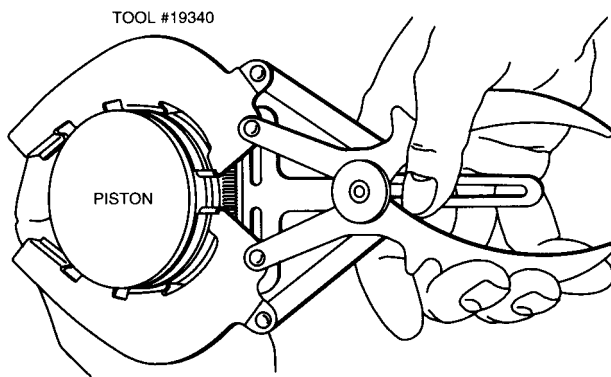

Fig. 1 - Remove Rings
1. Remove piston rings using ring expander, Briggs & Stratton P/N 19340, Fig. 1.